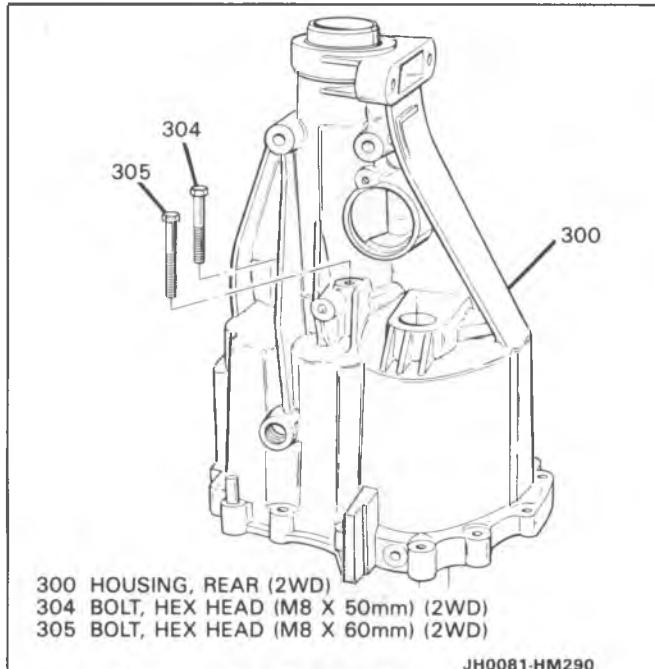
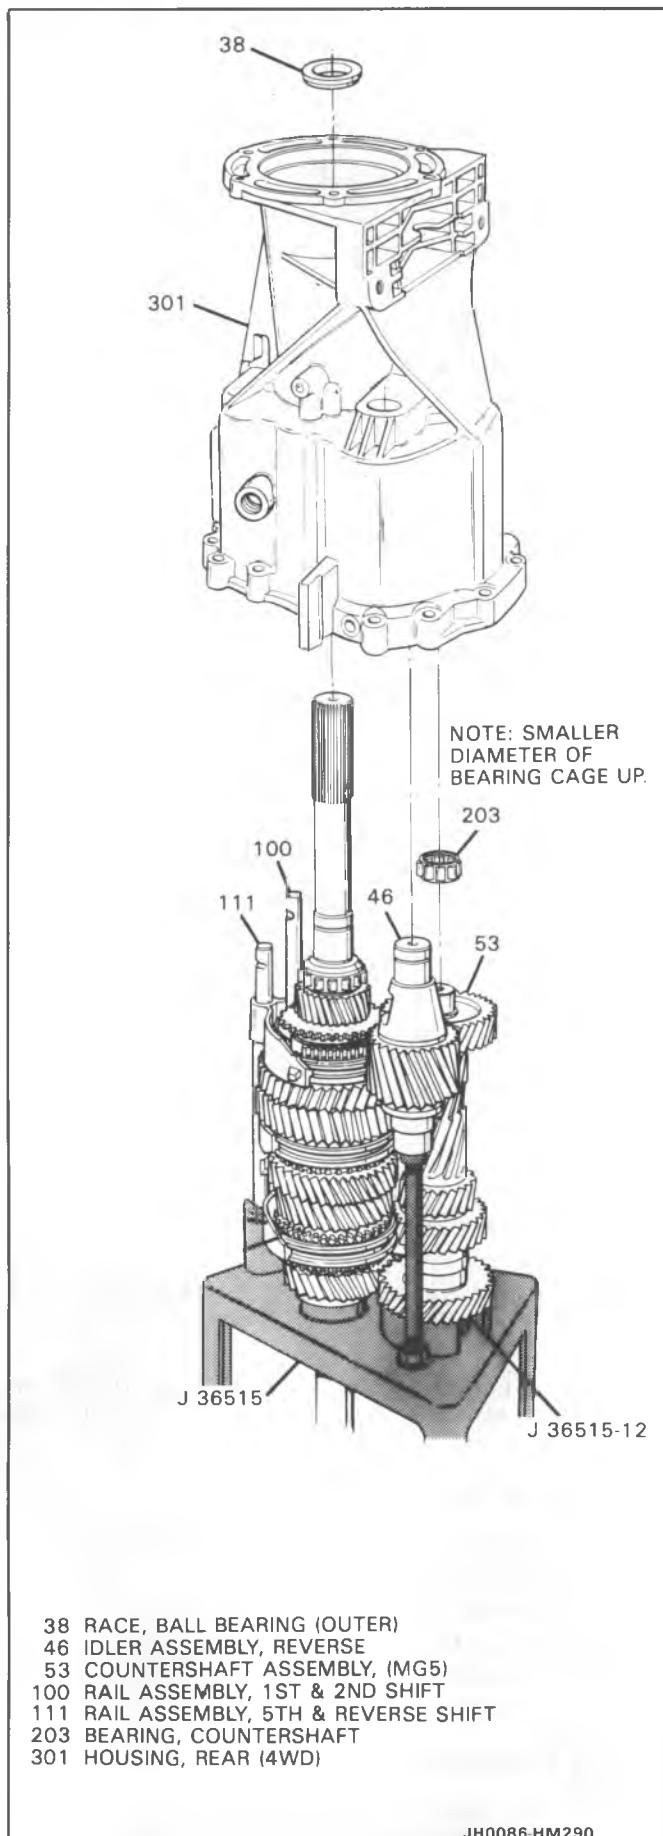

Figure 78 2WD Rear Bearing Retainer Bolts Install
Figure 79 4WD Rear Housing Install
18. 2WD Bolts (304) and (305) (Figure 78).
- Bolts (304) and (305) to 22 N·m (17 Lb. Ft.).
19. 4WD bearing (203) (Figure 79).
- Install in bearing race (202) of the housing.
20. 4WD rear housing assembly (301).